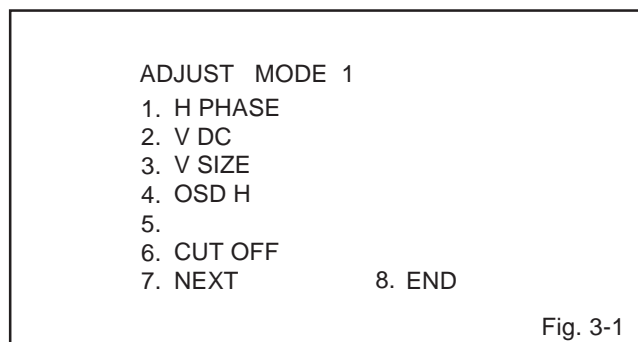
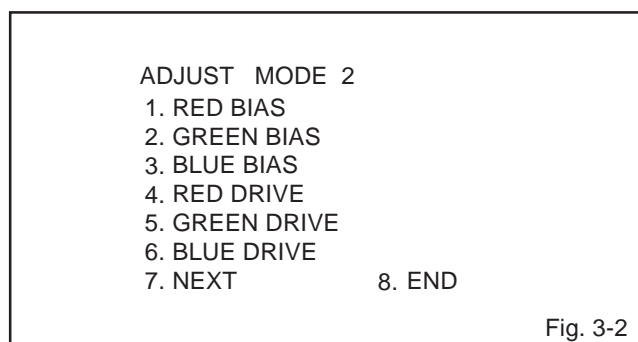
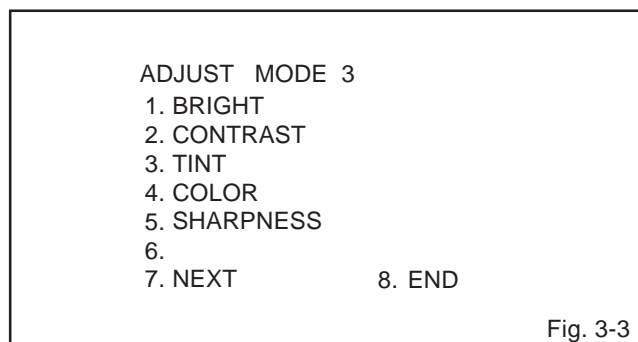
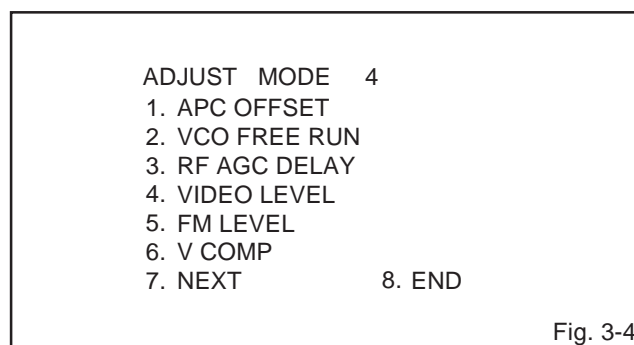

Fig. 3-1
Fig. 3-2
Fig. 3-3
Fig. 3-4
2. Press the VOL. DOWN on the set and the channel button **(9)** on the remote control simultaneously to display adjustment mode on the screen as shown in **Fig. 3-1, Fig. 3-2, Fig. 3-3 and Fig. 3-4.**
Use the 1-8 keys on the remote control to select the options shown in **Fig. 3-1, Fig. 3-2, Fig. 3-3 and Fig. 3-4.** Press the 8 key to end the adjustments.
3. Activate the adjustment mode display of **Fig. 3-4** and press the channel button **(2)** on the remote control.
3. Activate the adjustment mode display of **Fig. 3-4** and press the channel button **(3)** on the remote control.
1. Activate the adjustment mode display of **Fig. 3-1** and press the channel button **(6)** on the remote control.
2. Adjust from the adjustment mode display of **Fig. 3-2** until the white color of color bar becomes white.
3. Activate the adjustment mode display of **Fig. 3-1** and press the channel button **(1)** on the remote control.
3. Activate the adjustment mode display of **Fig. 3-1** and press the channel button **(2)** on the remote control.
3. Activate the adjustment mode display of **Fig. 3-1** and press the channel button **(3)** on the remote control.
3. Activate the adjustment mode display of **Fig. 3-3** and press the channel button **(4)** on the remote control.
3. Activate the adjustment mode display of **Fig. 3-3** and press the channel button **(1)** on the remote control.
3. Activate the adjustment mode display of **Fig. 3-3** and press the channel button **(3)** on the remote control.